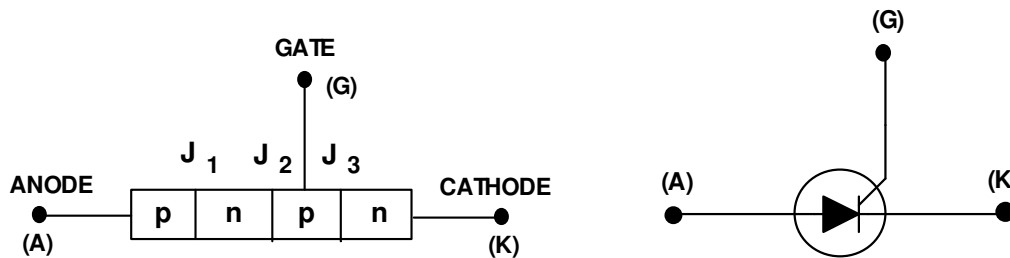

Fig. 64.1
**Marks (2)**
**Marks (6)**
**Ans: Constructional Features of Silicon Controlled Rectifier (SCR):** An SCR is a pnpn semiconductor device consisting of three pn junctions  $J_1, J_2, J_3$  as shown in fig.64.1 is as if an ordinary diode (PN) and a transistor (NPN) are combined in one unit. Three terminals are taken; one from the outer P-type material called Anode (A), second from the outer N-type material called Cathode (K) and the third from the other P-type material placed in between placed in between and called Gate (G).